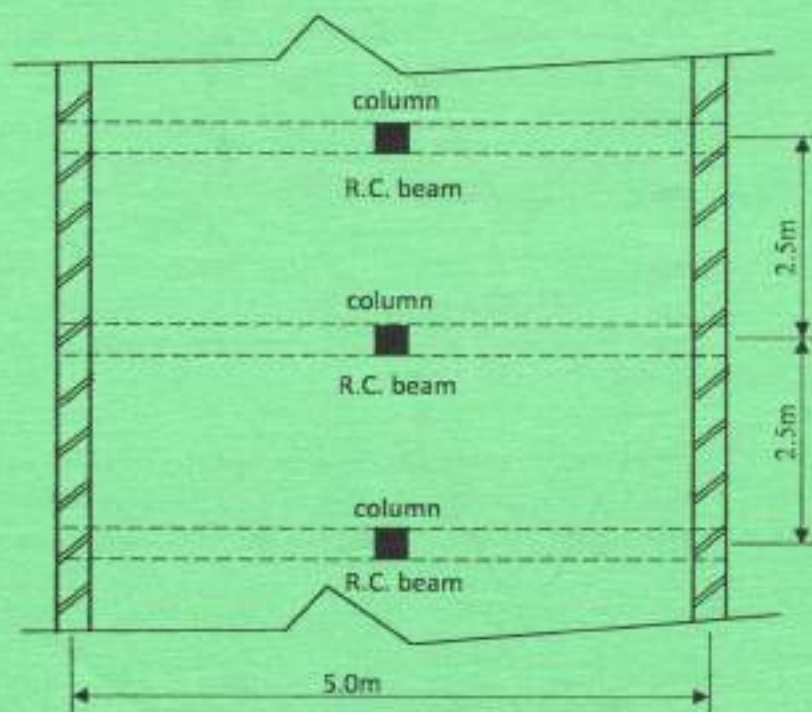

Fig. 5
5. Reinforced concrete beams of effective spans 5.0 m are spaced at 2.5 m c/c, as shown in figure 5, to support precast concrete panel floor slab and central column loads at mid spans.